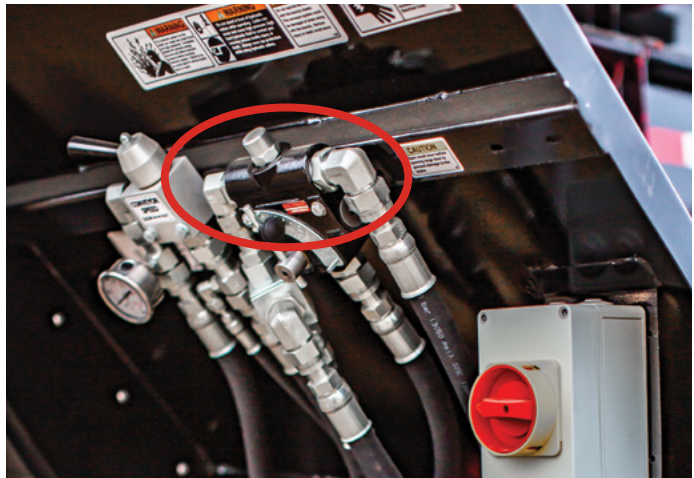

Figure 8 Rear PTO Controls
2. Conveyor operation is now controlled with the flow control valve located on the rear tail fin (Figure 8).